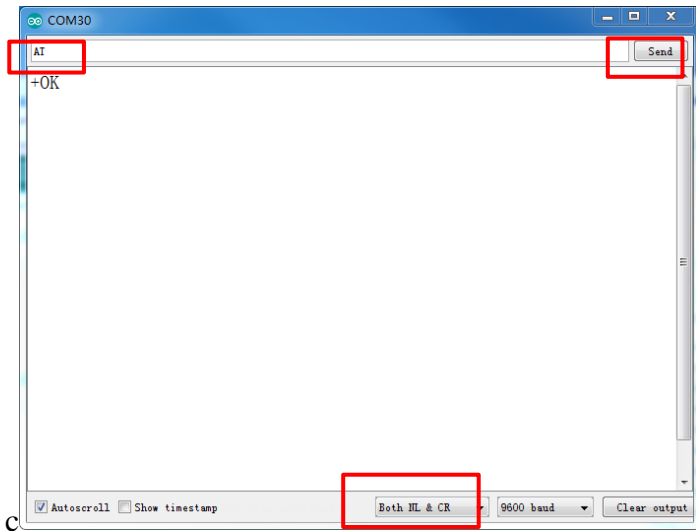

Figure 1.11
- 2) The test AT instruction is shown in figure 1.11. The USB and bluetooth data transmission mode of BLE-Nano is set as USB serial port data and BLE transmission as shown in figure 1.12